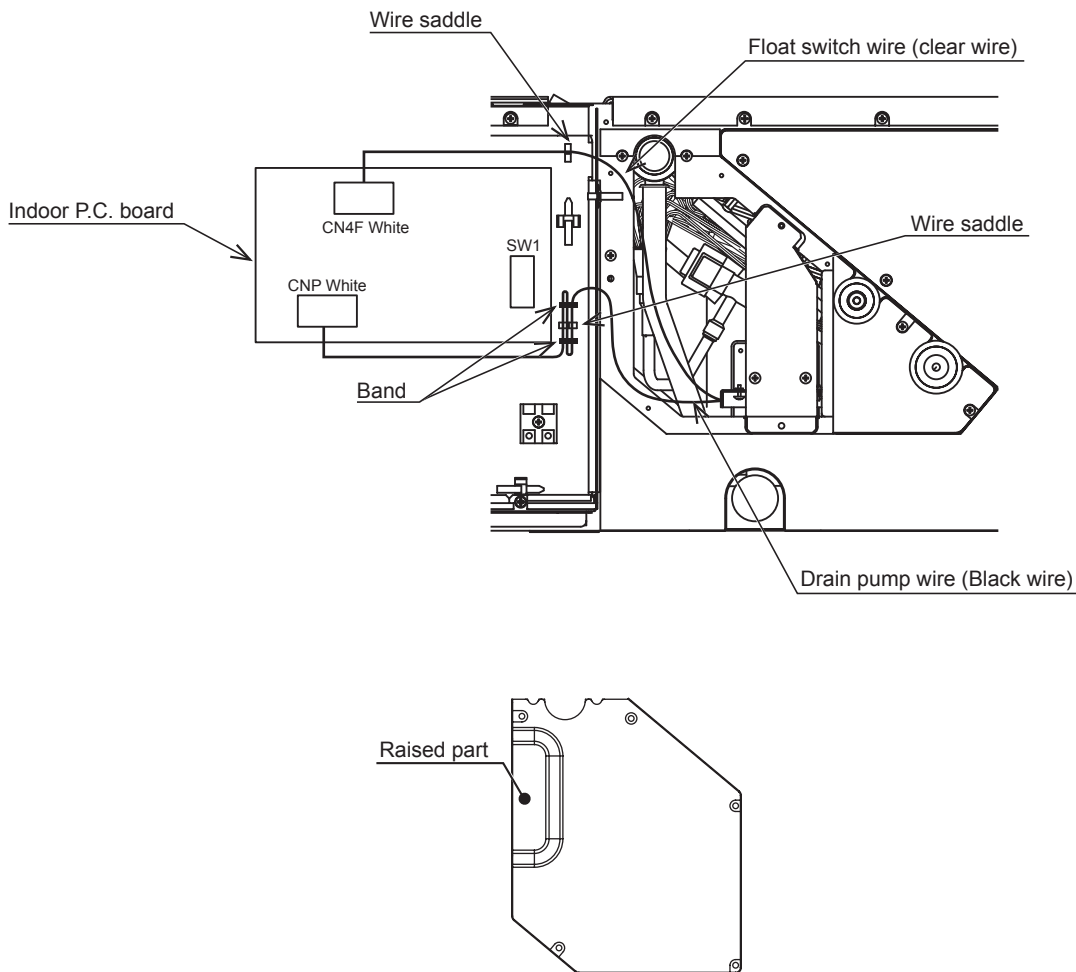

Fig. 4-1
1. Passing the pump wires (Fig. 4-1)
2. Connecting the pump wires to the control box of the indoor unit (Fig. 4-1)